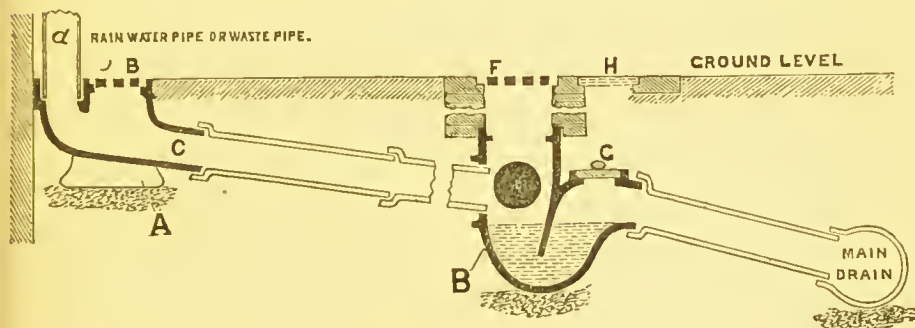

FIG. 118.—Section of a “Ventilating Drain-connector,” showing its connection with a R.W.-pipe and Drain.
lected water with some force into the drain. Such an arrangement would do away with the questionable value of traps at the bottoms of rain-water-pipes, and, at the same time, it would avoid the evils of long branch drains. The Author has designed a stoneware “Ventilating Drain-connector” for fixing at the bottom of rain-water-pipes and waste-pipes. Fig. 74, p. 184, shows a *perspective view* of it, and Fig. 118 a *section*, at A. This diagram, Fig. 118, explains itself: B shows the “*intercepting-trap*” fixed close to the main drain, and A the “*Drain-connector*” fixed at the foot of a rain-water-pipe. See Plates XIX. and XXI.
- A.—“*Ventilating Drain-connector.*”—See Fig. 74, p. 184, and A, Fig. 118, p. 271.